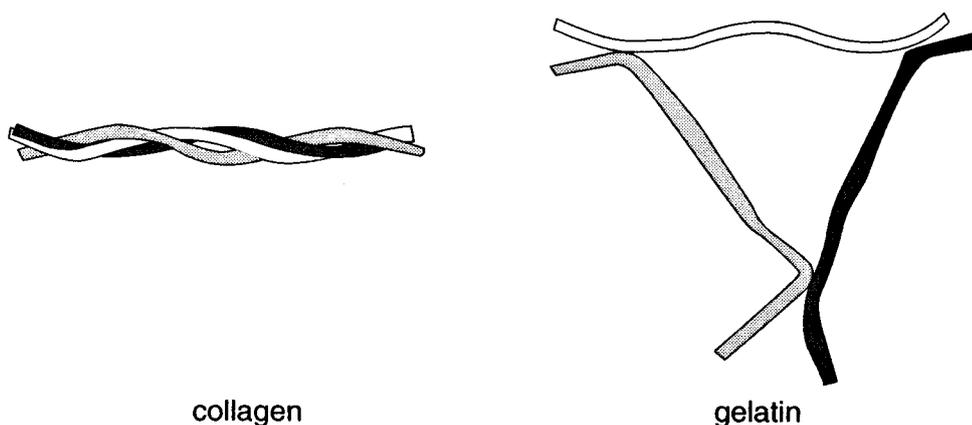

Fig. 1
- 20 The protein collagen is found in animal connective tissue, and it makes meat 'tough' to eat. This is because collagen consists of a triple helix of long-chain molecules, tightly wound together. At temperatures above about 70 °C the indigestible collagen molecules begin to disentangle to form gelatin, as shown in Fig. 1. The term 'tough' is used rather differently in describing strong materials such as metals.